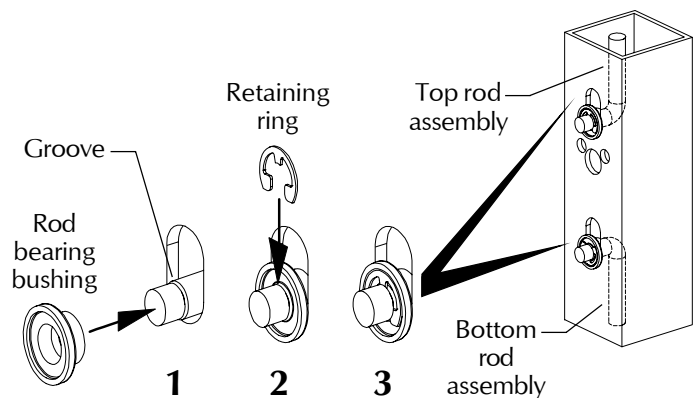

Figure 1-3
- 1.5. Install rod bearing bushing over end of each rod and secure with retaining ring (Figure 1-3).